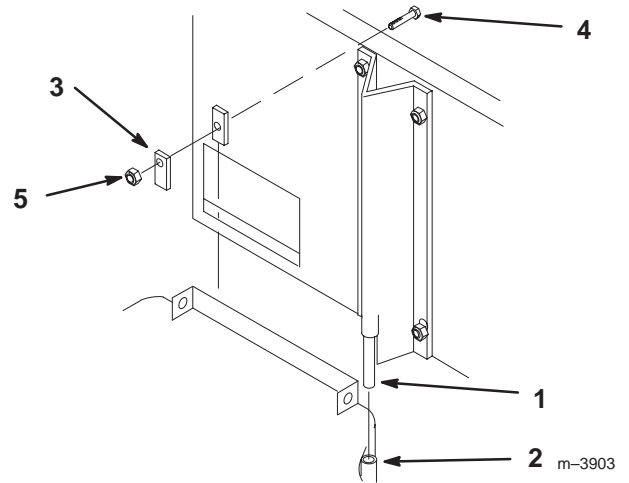

Figure 6
1. Tilt deflector up and slide support rod into tube at rear of mower discharge opening (Fig. 6).
2. Hold back plate against discharge opening and secure to mower with latch, 3/8-16 x 1” (25 mm) bolt and 3/8-16 locknut (Fig. 6).